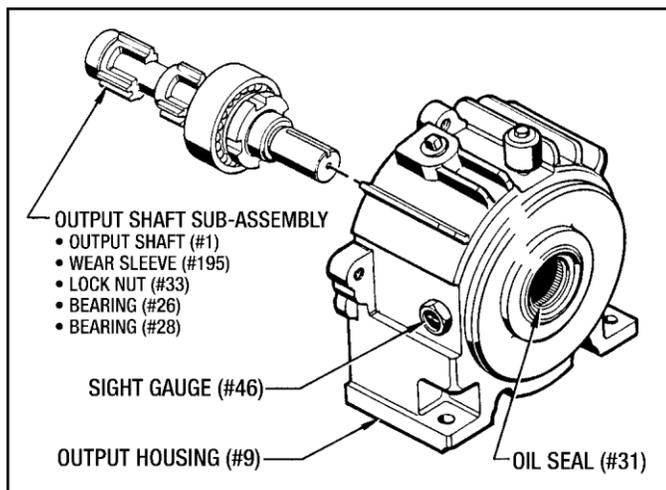

Figure 7.08 - Removing Output Shaft Sub-Assembly
2. Remove (4) Screws (#63) and (4) Lockwashers (#127) from the Bearing Retainer (#7). Remove the Bearing Retainer from the Output Housing (#9).
3. Pull the Output Shaft Sub-Assembly out the rear of the Output Housing. (See Figure 7.08)